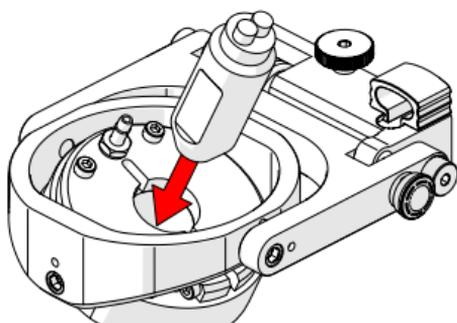

Fig. 137 - Insert probe
2. Insert the probe into the receptacle to the appropriate depth (Fig. 137).